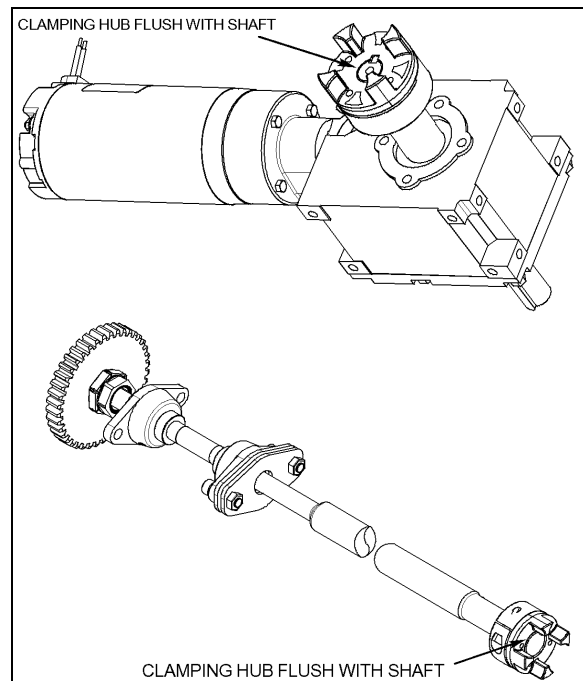

FIGURE 19: CLAMPING HUB POSITION ON SHAFTS
bolts) flush with the shaft extremity (see FIGURE 19). Tighten the clamping screw to a torque of 18 lbf-ft.
7. Install the second clamping hub on the gearbox shaft. Position the clamping hubs so that they are flush with the shafts extremity (see FIGURE 19).